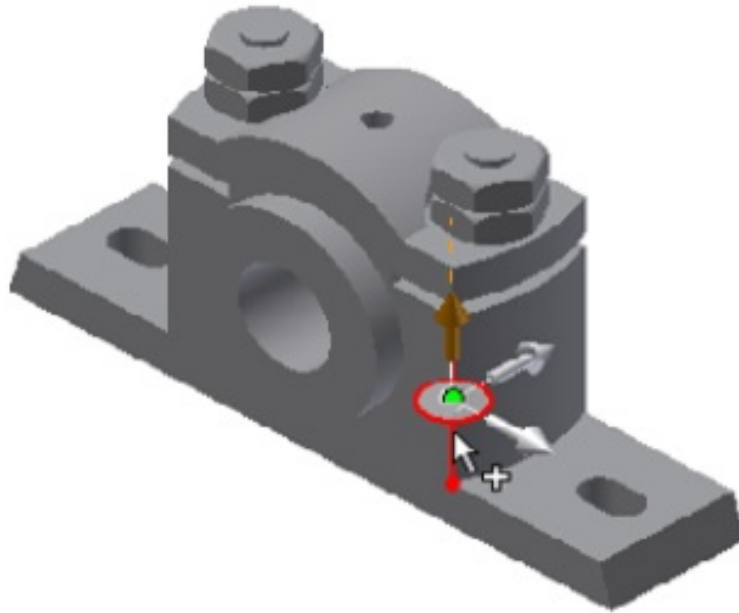

Figure 13-16 *Selecting the direction for the tweak*
3. Press the SHIFT key and select the vertical edge of the Casting to define origin of the triad, refer to Figure 13-16.